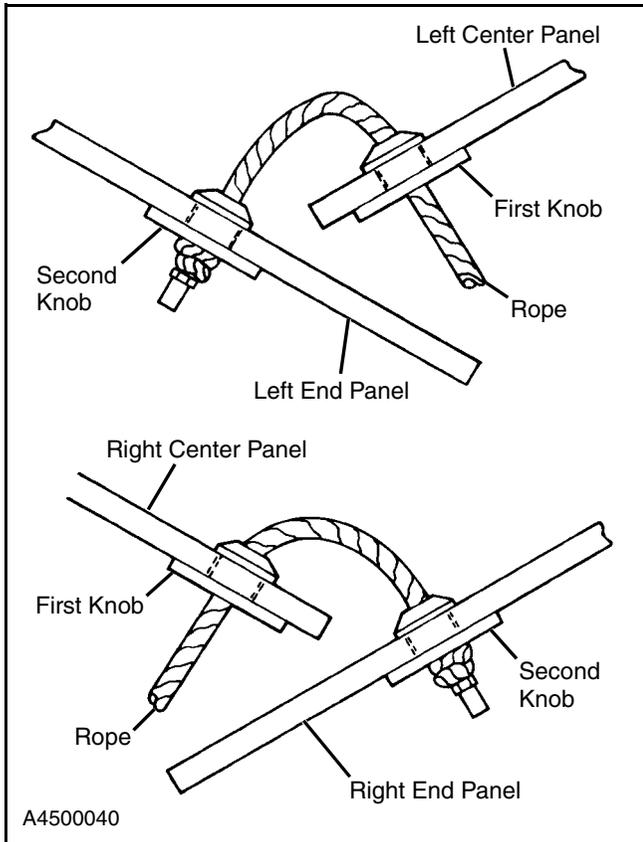

Figure 35
9. Insert the end of the rope without the knot through the wide face of the first knob. To make tying the second knot easier, the first knob should be the one under the panel overlap. Run the rope through the knob beside it from the hinge side and pull the rope tight. (See Figure 35.)